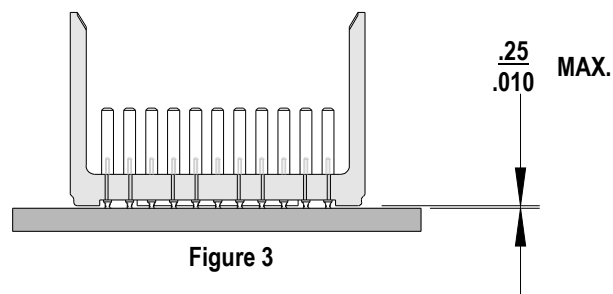

Figure 3
3. Using the application tool and an appropriate press, seat the header assembly until there is less than 0.25mm (.010 in) clearance between the bottom of the plastic housing and the surface of the PCB. See Figure 3.